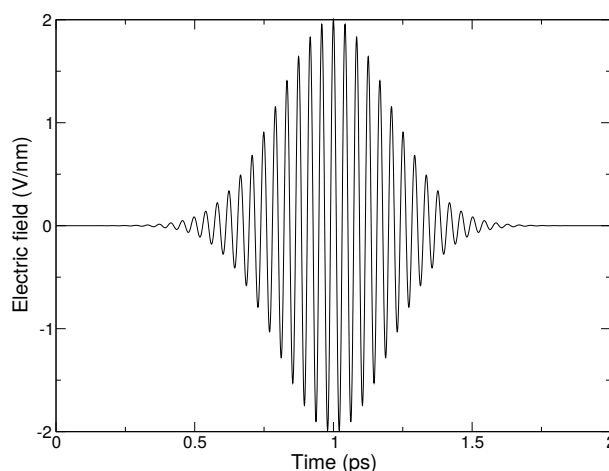

Fig. 5.48: A simulated laser pulse in GROMACS.
This simulated laser-pulse was applied to simulations of melting ice 146 (page 544). A pulsed electric field may look like Fig. 5.48. In the supporting information of that paper the impact of an applied electric field on a system under periodic boundary conditions is analyzed. It is described that the effective electric field under PBC is larger than the applied field, by a factor depending on the size of the box and the dielectric properties of molecules in the box. For a system with static dielectric properties this factor can be corrected for. But for a system where the dielectric varies over time, for example a membrane protein with a pore that opens and closes during the simulation, this way of applying an electric field is not useful. In such cases one can use the computational electrophysiology protocol described in the next section (sec. *Computational Electrophysiology* (page 486)).
yields an pulsed-oscillating electric field with  $E_0 = 2$  V/nm,  $\omega = 150$ /ps and  $t_0 = 5$  ps and  $\sigma = 1$  ps. Read more in ref. 146 (page 544). Note that the input file format is changed from the undocumented older version. A figure like Fig. 5.48 may be produced by passing the `-field` option to *gmx mdrun* (page 185).